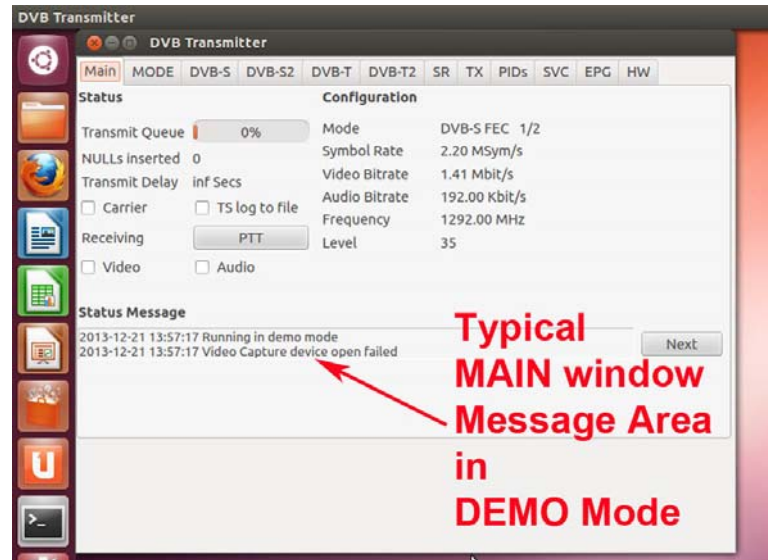

Figure 11 – MAIN user window showing DEMO MODE without either hardware board or video-capture
- If the software application is working well, the DATV-Express MAIN user window should appear in DEMO mode, as shown below in **Figure 11**.
Another trouble-shooting approach if you launch DATV-Express to start up...but the User Interface in **Figure 11** never appears...is to start the DATV-Express binary in the terminal mode.